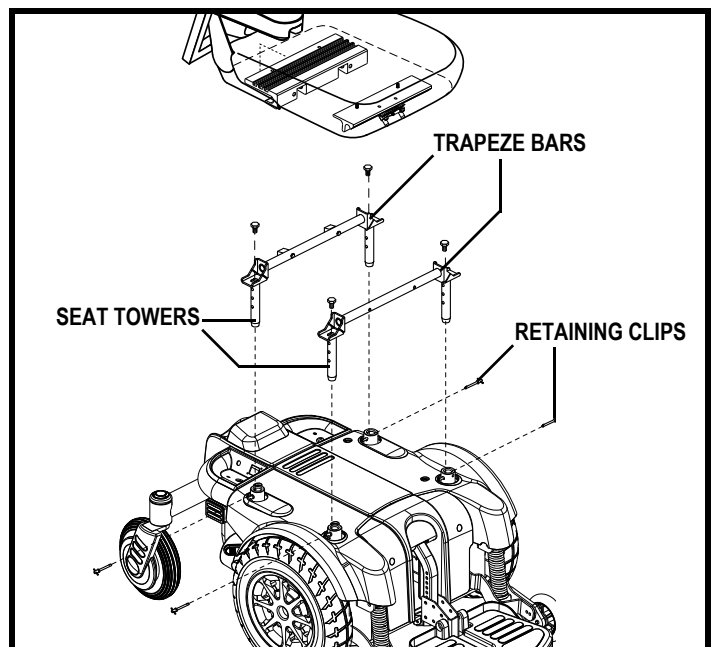

Figure 14. Seat Height Adjustment
7. Remove the retaining clip from each of the four seat towers. See figure 14.